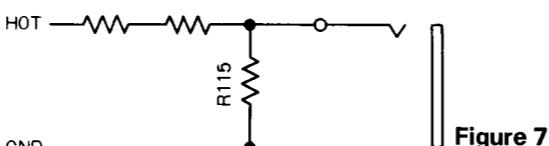

Figure 7
- 1) The constants are determined using a standard phone jack with switch, so that the output impedance of the headphones is 120 ohms. When the phone jack is inserted, R115 is placed between HOT and GND. (See Fig. 7)